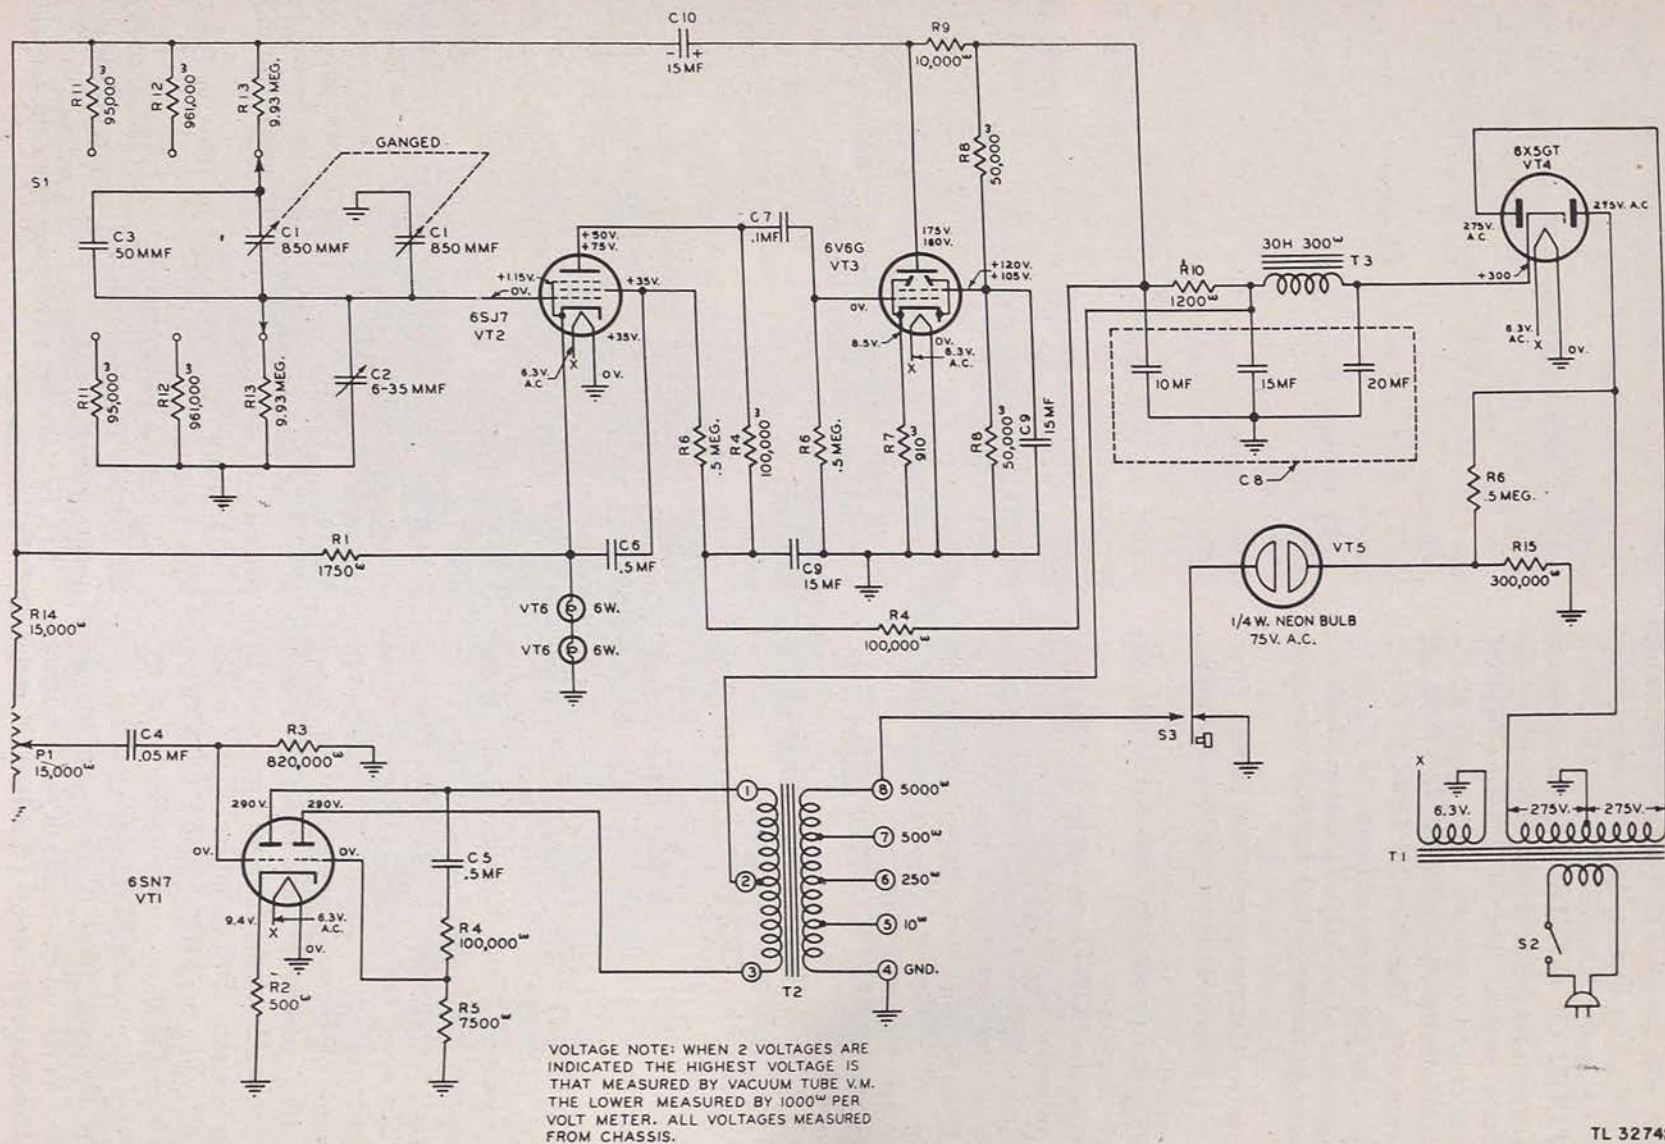

Figure 11. Hickok a-f signal generator, model 198, schematic.
b. HOW TO READ SCALES. (1) When the range selector is set for the 20-to-200-cycle range, read the lowest scale on the indicator. Each scale division equals 0.5 cycle.
(2) When the range selector is set for the 200-to-2,000-cycle range, read the center scale. Each scale division equals 5 cycles.
(3) When the range selector is set for the 2,000-to-20,000-cycle range, read the top scale. Each scale division equals 50 cycles.
j. SCHEMATIC ANALYSIS. Figure 11 shows the schematic diagram for this a-f signal generator. These diagrams are to be used only when the officer in charge grants permission to make emergency repairs on the signal generator. The following discussion is limited to the important parts contained in the instrument.
(1) *Oscillator circuit.* The signal is generated by two tubes operating in a resistance-capacitance (RC) oscillator circuit. This circuit is so arranged that the audio-frequency voltage generated by these tubes has little distortion and high stability. Two ganged, variable capacitors are used to set the frequency output of the oscillator. The capacitors form part of the RC network which bridges the output and input of the amplifier and selects the desired operating frequency. One other variable capacitor is used to adjust the frequency over a small range for calibration purposes.
b. RANGES. (1) 15 to 25 mc.